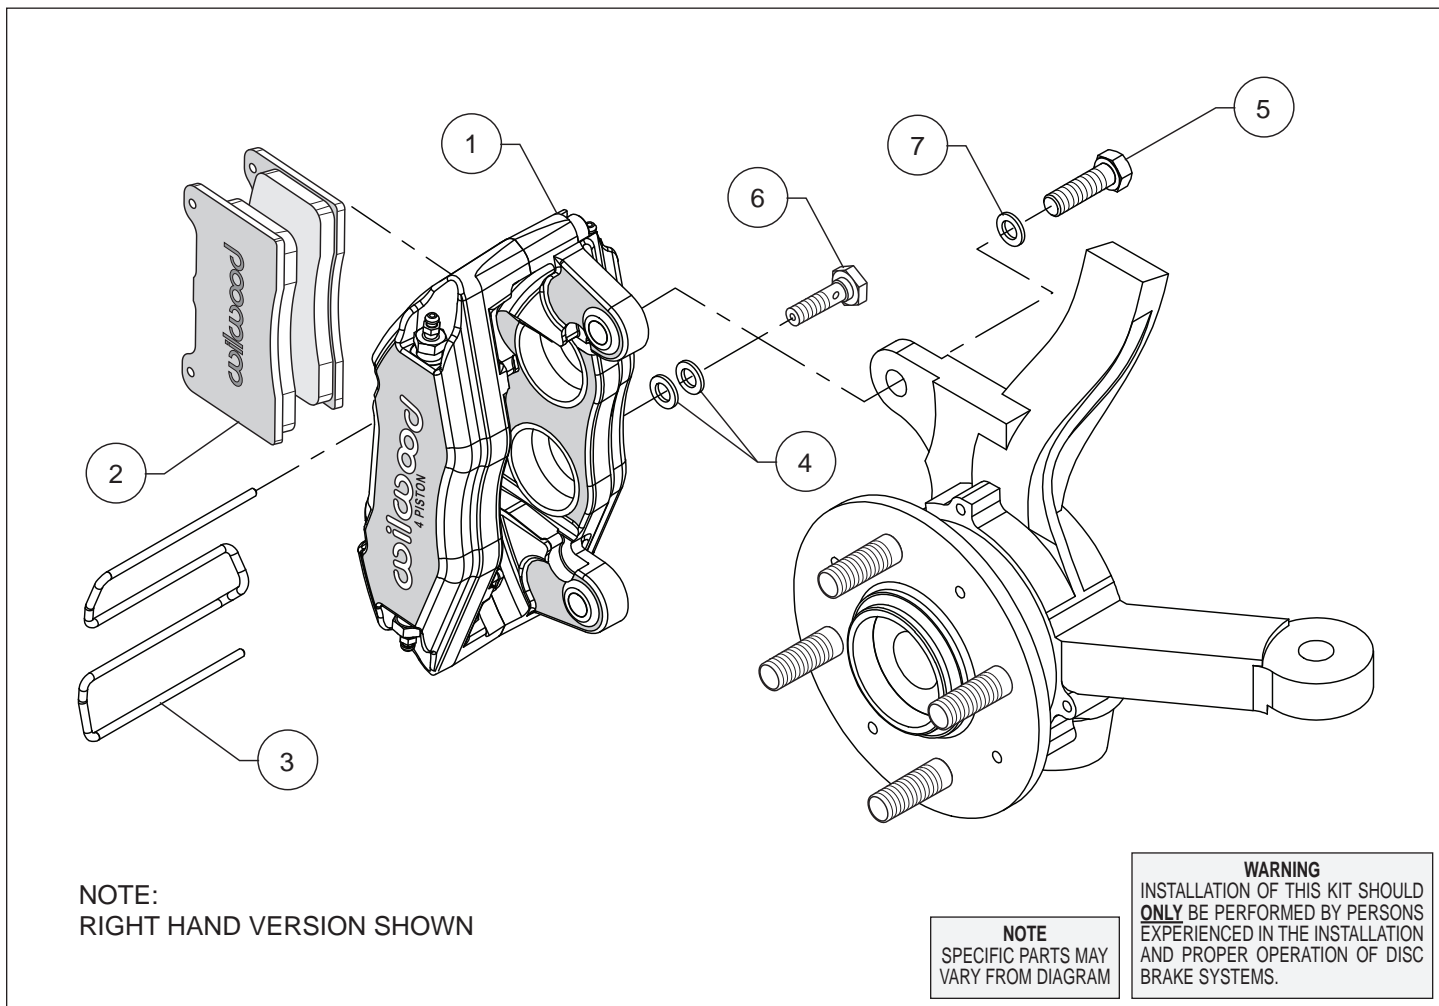

Figure 1. Typical Installation Configuration
**Assembly Instructions** (numbers in parenthesis refer to the parts list and Figure 1 on the preceding page):
• Mount the new Wilwood caliper (1) onto the axle hub caliper mounting bosses using bolts (5) and washers (7) as shown in Figure 1 and Photo 1. Apply red *Loctite*® 271 to the bolt threads and torque to 60 ft-lbs.
• Install the disc brake pads (2) into the caliper, with the friction material facing the rotor, and secure in place using pad clip retainer (3), Figure 1 and Photo 2.